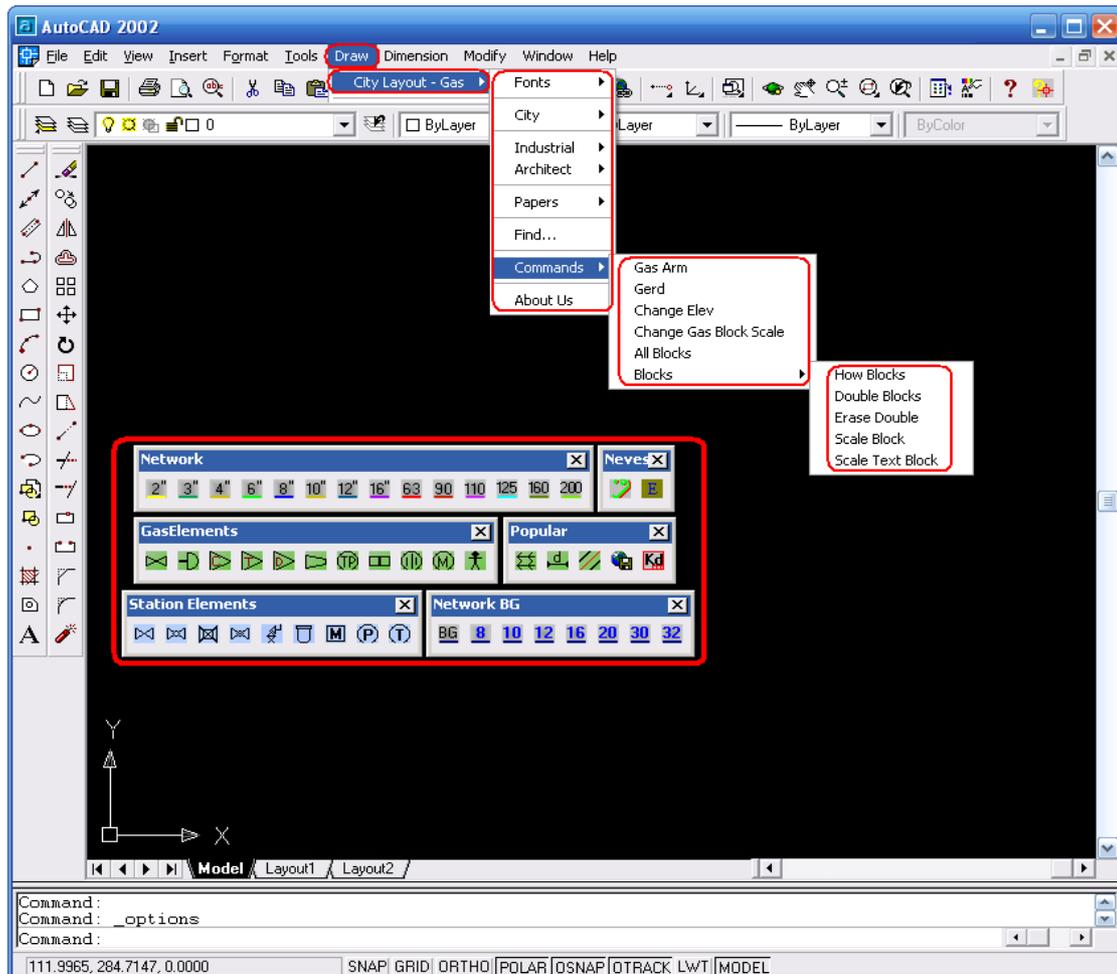

Figure 13
- Figure 13 : Drawing environment of “City Layout – Gas” software.